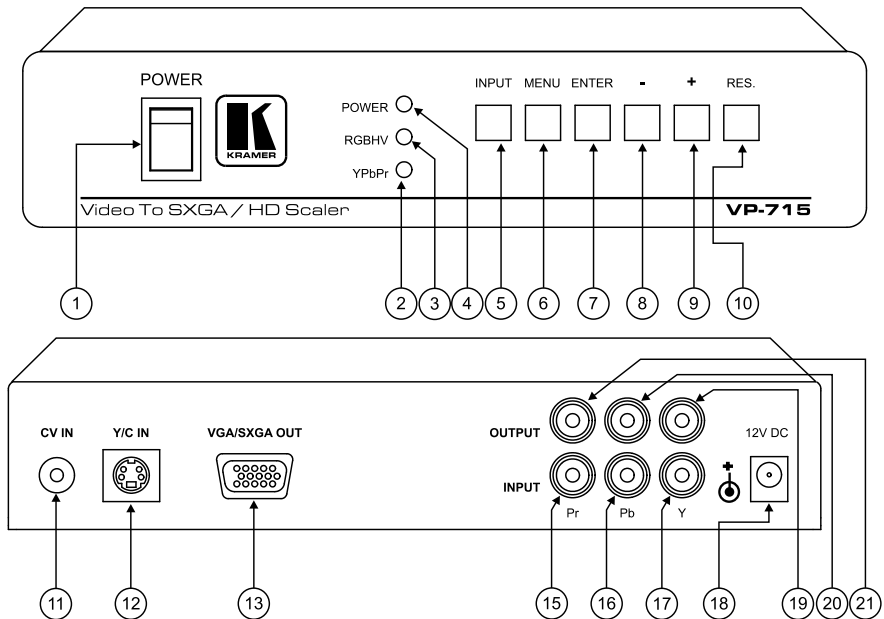
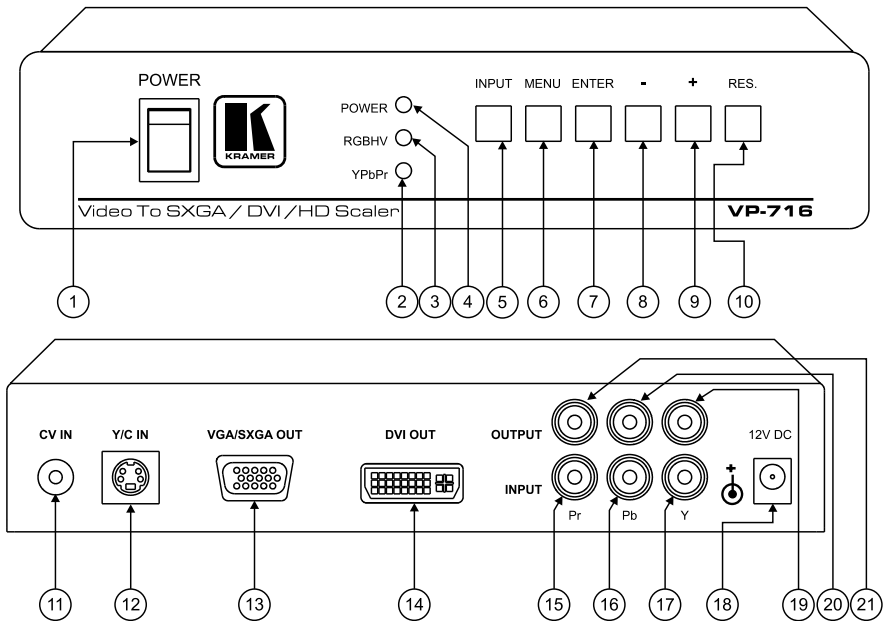

Figure 1: VP-715 Video To SXGA / HD Scaler
Figure 2: VP-716 Video To SXGA / DVI / HD Scaler
Figure 1 and Figure 2 illustrate the **VP-715** and **VP-716**, respectively. Table 1 defines the **VP-715** and **VP-716**.
1 Output is on the YPbPr RCA connectors (items 19, 20, and 21 in Figure 1, Figure 2 and Table 1)
2 Output is on the VGA / SXGA HD15 connector (item 13 in Figure 1, Figure 2 and Table 1)